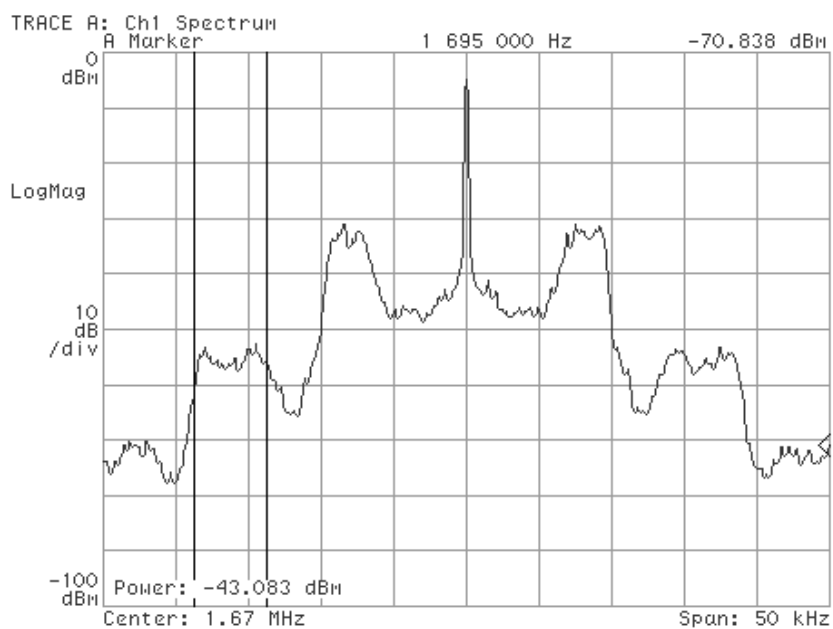

Figure 5-6: Typical AM aligned spectrum
7. Once the waveforms are amplitude and time aligned, the receiver will lock to the digital mode. This alignment also provides for optimum spectral performance (refer to Figure 5-6).